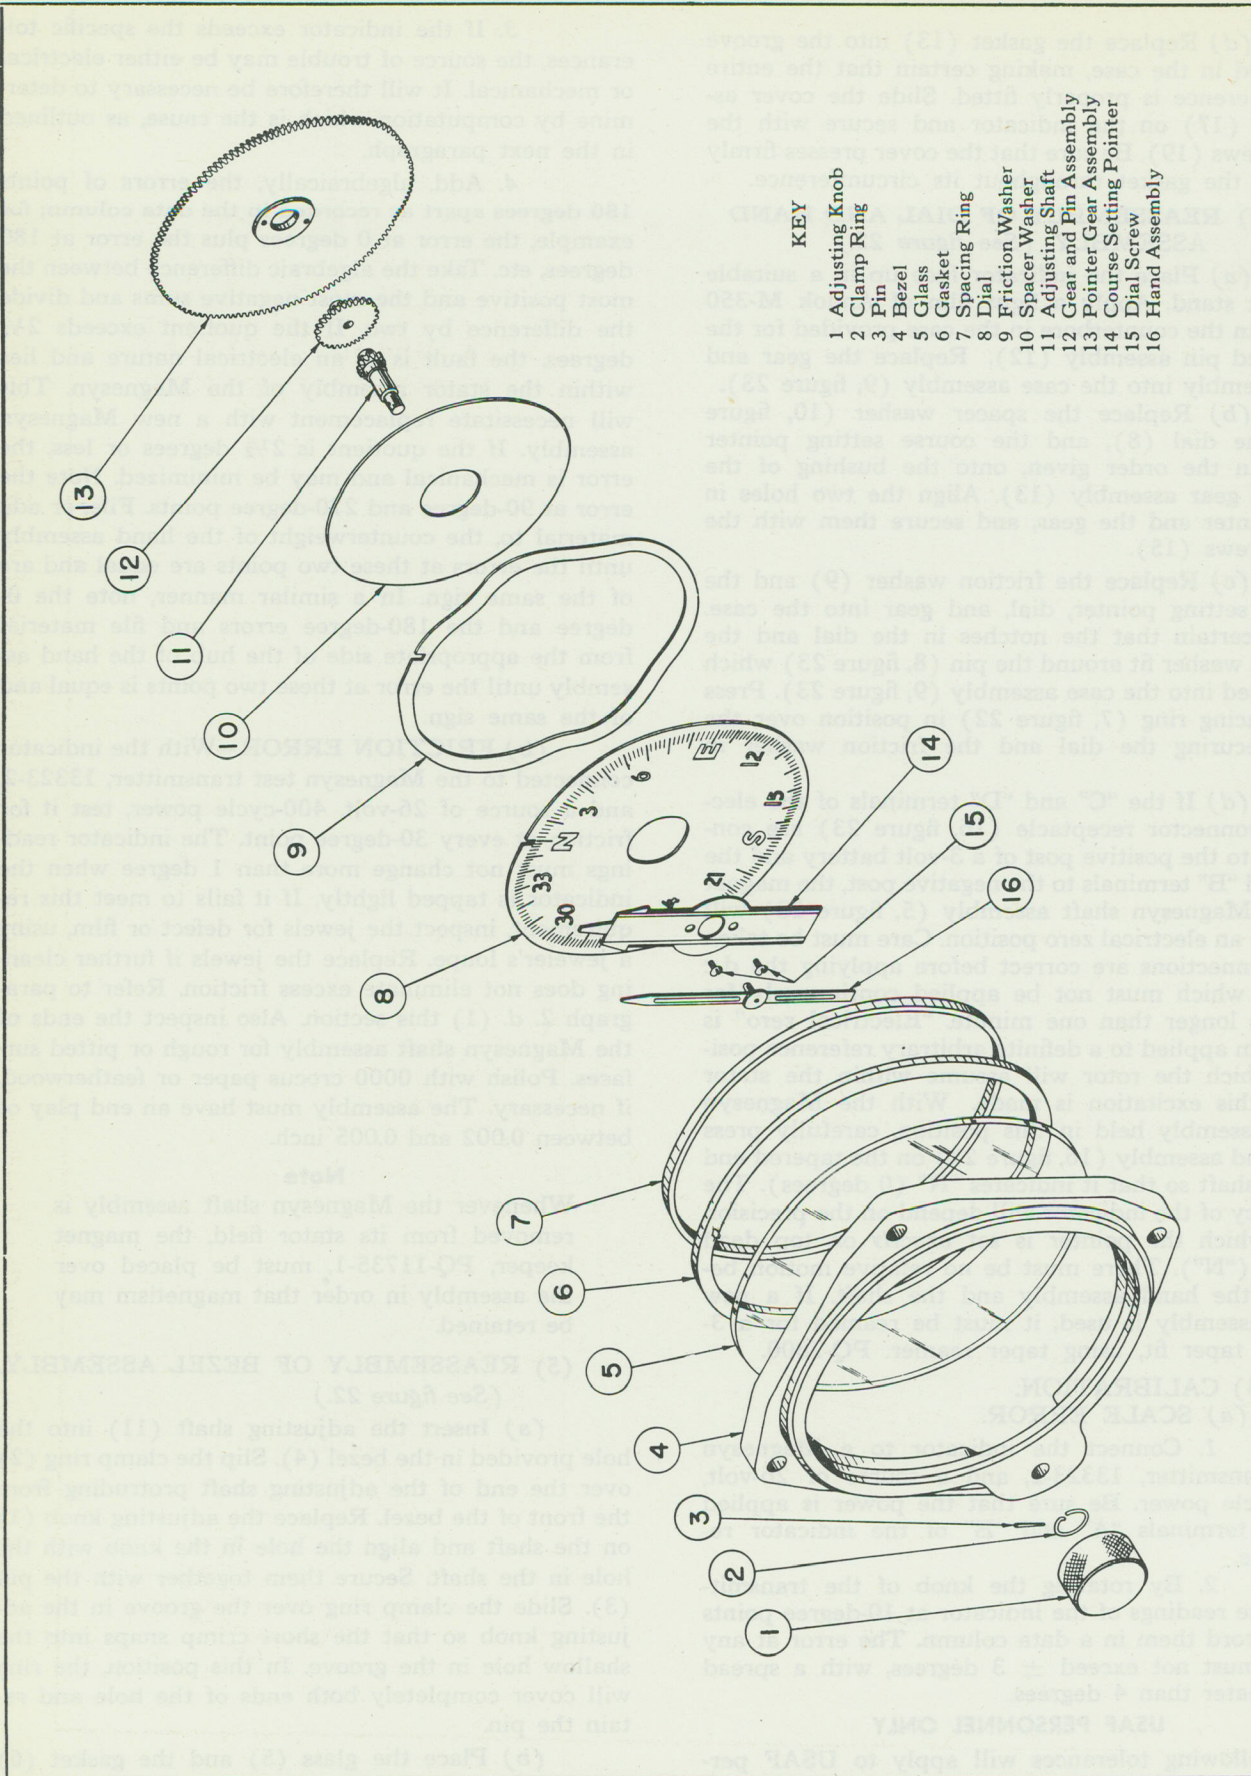
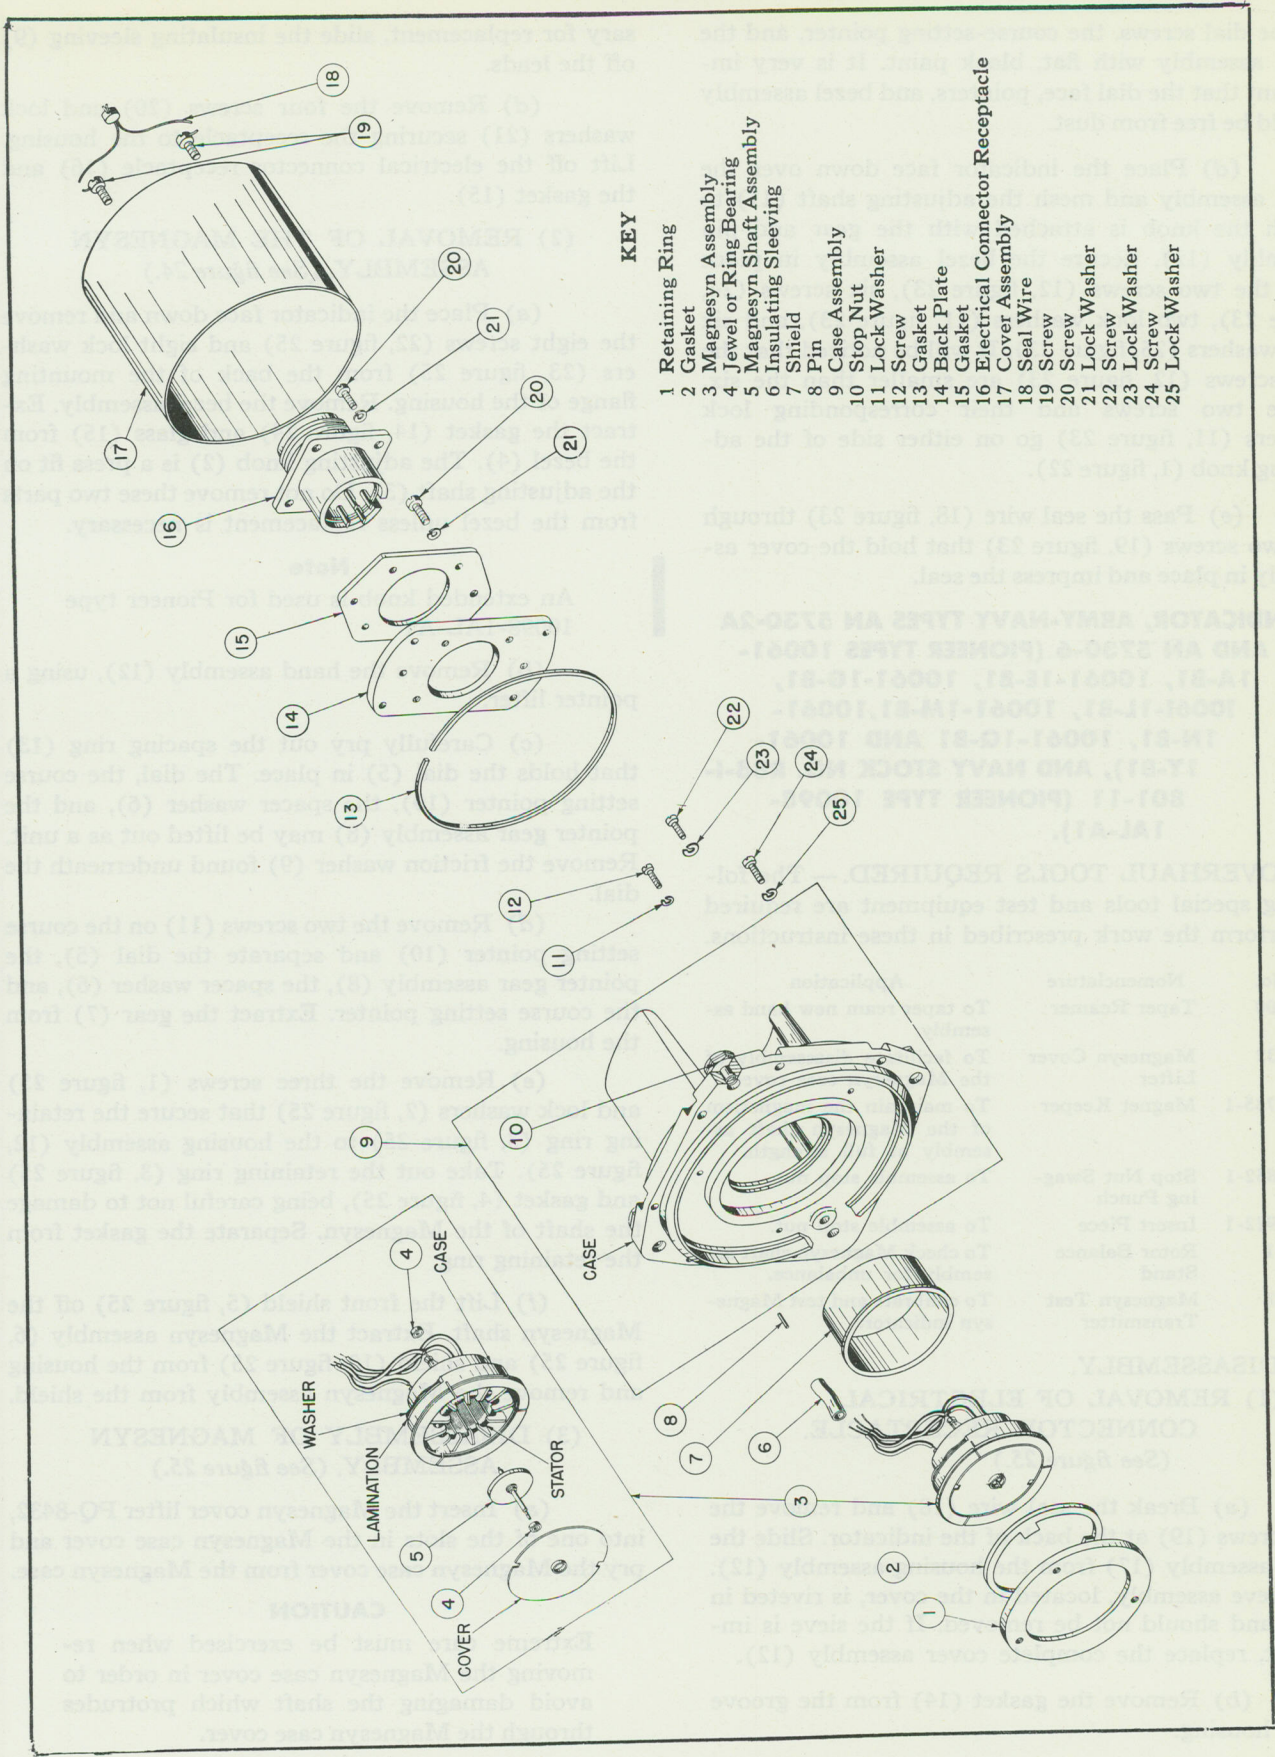

Figure 22—Exploded View Drawing—Main Assembly—Indicator—Types AN 5730-2 and AN 5730-6 (Pioneer Types 10061--A1)
Figure 23—Exploded View Drawing—Main Assembly—Indicator—Types AN 5730-2 and AN 5730-6 (Pioneer Types 10061--A1)
(1) REMOVAL OF ELECTRICAL CONNECTOR RECEPTACLE. (See figure 23.)
(2) REMOVAL OF MAGNESYN ASSEMBLY. (See figure 22.)
(a) Place the indicator face down and remove the six screws (24, figure 23), two screws (12, figure 23), six lock washers (25, figure 23), and two lock washers (11, figure 23) from the back of the mounting flange of the case. Remove the bezel assembly. Extract the gasket (6, figure 22) and glass (5) from the bezel (4). The adjusting shaft and knob assembly will come off with the bezel.
(g) Remove the three screws (22, figure 23) and lock washers (23, figure 23) that secure the retaining ring (1, figure 23) to the case assembly (9), and remove the retaining ring. Remove gasket (2, figure 23).
Early models of the indicator do not have the gasket (2, figure 23). This gasket was added to reduce distortion of the Magnesyn case caused by variation in the frame, shield, and case. This gasket cannot be used with the old retaining ring, PB-23626. On reassembly, use new type retaining ring, PB-51237-1, and gasket.
(h) Extract the Magnesyn assembly and shield (7, figure 23) from the case assembly (9, figure 22) and remove the Magnesyn assembly from the shield.
(3) DISASSEMBLY OF MAGNESYN ASSEMBLY. (See figure 23.)
c. CLEANING, INSPECTION, TESTING, AND REPAIR. (See figure 23.)
(1) Examine the pin (8) pressed into the case. Replace it with a new one if necessary. If a stop nut (10) requires replacement, carefully punch the old stop nut out of the case. Replace the new stop nut, using the stop nut swagging punch, PQ-15852-1. Slide the insert piece, PQ-15922-1, in the slot of the stop nut to avoid damaging the new nut.
(2) Inspect the cover glass to be sure that it is clean and free from cracks. Check the gaskets to ascertain that they are in good condition. Replace them with new ones if necessary.
(3) With a fibre brush, clean the teeth of the pointer gear assembly (13, figure 22), the gear and pin assembly (12, figure 22), and the adjusting shaft assembly (11, figure 22). Wash with filtered benzene, Specification No. AN-4-1016B, and dry with clean air.
(4) Clean the pivot jewels (4, figure 23) with a pointed orange stick. Inspect the jewels for cracks and flaws with a sharp-pointed needle or a 15 to 30X magnifying glass. A cracked or otherwise damaged jewel must be replaced. If replacement is necessary, selection of jewels to fit the Magnesyn shaft assembly will be made at reassembly.
(5) Demagnetize the Magnesyn shaft assembly (5) with a suitable demagnetizer. Check the balance of the rotor in the rotor balance stand, 13308-1. If the rotor is out of balance, file some material from the heavy edge of the hub. Clean the pivots with pithwood. Bent, scored, or worn pivots will necessitate replacement of the Magnesyn shaft assembly.
(6) The magnet of the Magnesyn shaft assembly must be remagnetized before reassembly. Place the Magnesyn shaft assembly in a two-pole magnetizer and magnetize it to full strength. Place the Magnesyn shaft assembly in the magnet keeper, PQ-11735-1, until it is replaced within the stator assembly.
(7) Using a standard ohmmeter, test the stator assembly for resistance and continuity of the windings. The resistance of each phase must be within two ohms of the resistance of each of the other two phases. If the stator assembly fails to meet the above conditions, replace the complete Magnesyn assembly.
(8) Replace the gasket (13) with a new one.
(9) Inspect and check the hand assembly for balance. If unbalanced, remove material from, or add material to, the counterweight.
(10) Flush out the sieve assembly in the cover. Blow filtered benzene, Specification No. AN-4-1016B, through the sieve assembly with a blast of dry, clean air, from a direction opposite the entrance of foreign
(1) REASSEMBLY OF MAGNESYN ASSEMBLY. (See figure 23.)
(See figure 23.)
(3) REASSEMBLY OF DIAL AND HAND ASSEMBLY. (See figure 22.)
(a) Place the indicator face up in a suitable support stand. Apply a light film of Andok M-350 grease in the counterbore in the case provided for the gear and pin assembly (12). Replace the gear and pin assembly into the case assembly (9, figure 23).
(b) Replace the spacer washer (10, figure 22), the dial (8), and the course setting pointer (14), in the order given, onto the bushing of the pointer gear assembly (13). Align the two holes in the pointer and the gear, and secure them with the two screws (15).
(c) Replace the friction washer (9) and the course setting pointer, dial, and gear into the case. Make certain that the notches in the dial and the friction washer fit around the pin (8, figure 23) which is pressed into the case assembly (9, figure 23). Press the spacing ring (7, figure 22) in position over the dial, securing the dial and the friction washer in place.
(d) If the "C" and "D" terminals of the electrical connector receptacle (16, figure 23) are connected to the positive post of a 3-volt battery and the "A" and "B" terminals to the negative post, the magnet of the Magnesyn shaft assembly (5, figure 23) will assume an electrical zero position. Care must be taken that connections are correct before applying the d-c power, which must not be applied continuously for periods longer than one minute. "Electrical zero" is the term applied to a definite arbitrary reference position which the rotor will assume within the stator when this excitation is made. With the Magnesyn shaft assembly held in this position, carefully press the hand assembly (16, figure 22) on the tapered end of the shaft so that it indicates "N" (0 degrees). The accuracy of the indicator will depend on the precision with which the pointer is set *exactly* on top dead center ("N"). There must be no relative motion between the hand assembly and the shaft. If a new hand assembly is used, it must be reamed for a 3-degree taper fit, using taper reamer. PQ-2800.
(See figure 22.)
(d) Place the indicator face down over the bezel assembly and mesh the adjusting shaft (11) to which the knob is attached with the gear and pin assembly (12). Secure the bezel assembly in place with the two screws (12, figure 23), six screws (24, figure 23), two lock washers (11, figure 23), and six lock washers (25, figure 23). It will be noticed that the two screws (12, figure 23) are smaller than the six. These two screws and their corresponding lock washers (11, figure 23) go on either side of the adjusting knob (1, figure 22).
(e) Pass the seal wire (18, figure 23) through the two screws (19, figure 23) that hold the cover assembly in place and impress the seal.